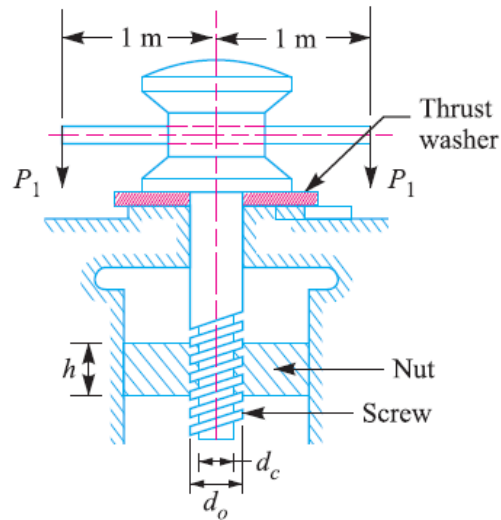

Figure 2
- Q8.** A sluice gate weighing 18 kN is raised and lowered by means of square threaded screws, as shown in Fig. 2. The frictional resistance induced by water pressure against the gate when it is in its lowest position is 4000 N. The outside diameter of the screw is 60 mm and pitch is 10 mm. The outside and inside diameter of washer is 150 mm and 50 mm respectively. The coefficient of friction between the screw and nut is 0.1 and for the washer and seat is 0.12. Find :